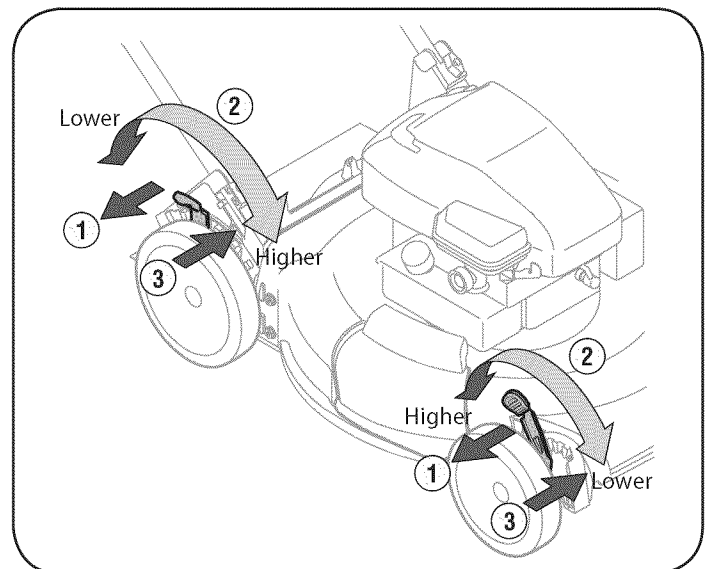

Figure 8
2. Move lever to desired position for a change in cutting height. See Figure 8.